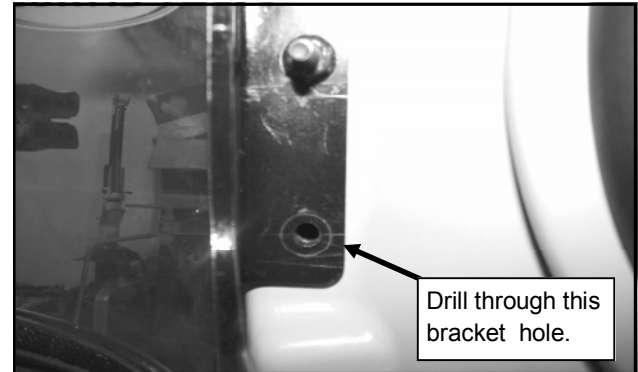

Fig. 2.8 (Drill lower holes)
- 2.8** Per Figure 2.8, orient bracket so that it is parallel with the windshield tube and tighten the hardware. Use the lower hole in the bracket as a guide and drill through plastic and front roof supports using 1/4" drill bit.